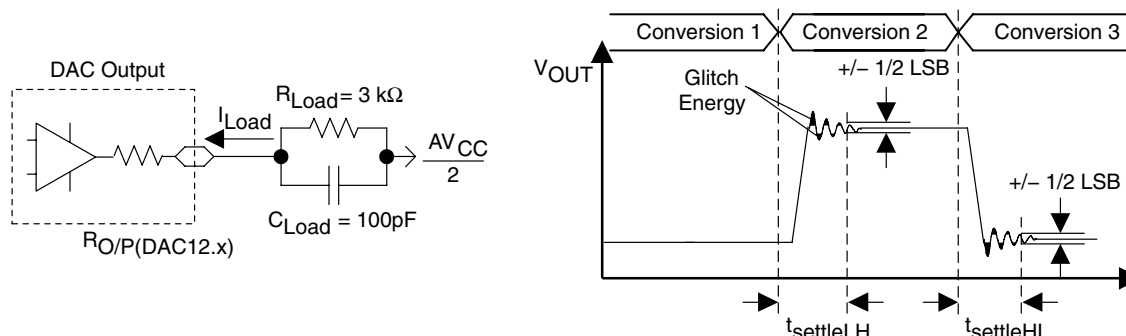
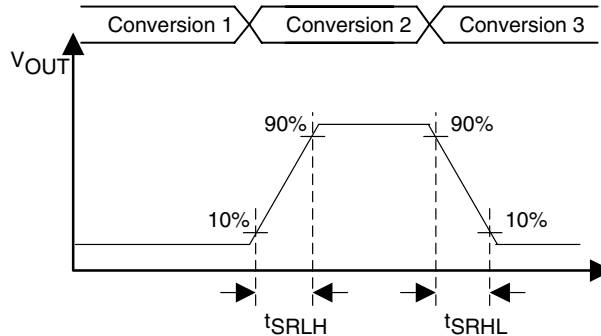

Figure 25. Settling Time and Glitch Energy Testing
Figure 26. Slew Rate Testing
## 12-bit DAC, dynamic specifications; Vref = VCC, DAC12IR = 1 (see Figure 25 and Figure 26)
- NOTES: 1. RLoad and CLoad connected to AVSS (not AVCC/2) in Figure 25.